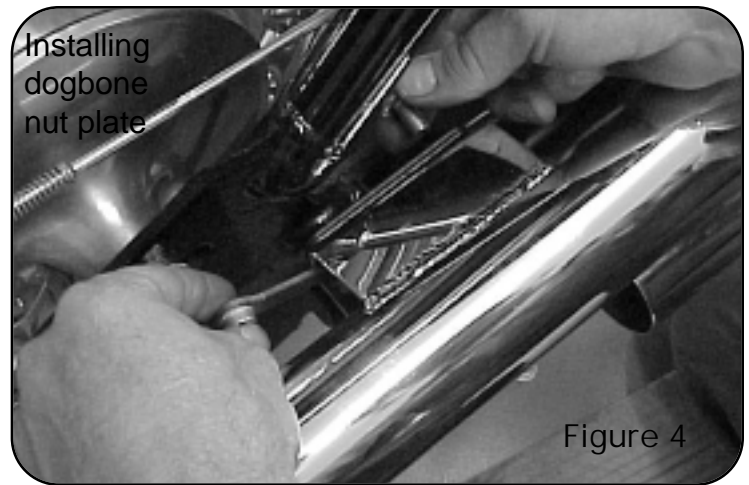

Figure 4
5. Install front head pipe/muffler using M8 x 35 allen head bolts (supplied). Slide dog bone shaped nut plate (supplied) inside bracket welded to backside of muffler. Attach muffler to mounting bracket 327 using 5/16" flange bolts (supplied) engaging dogbone nut plate. Leave head pipe/muffler assembly loose at this time. Refer to figure 4. Repeat this step with the rear head pipe.